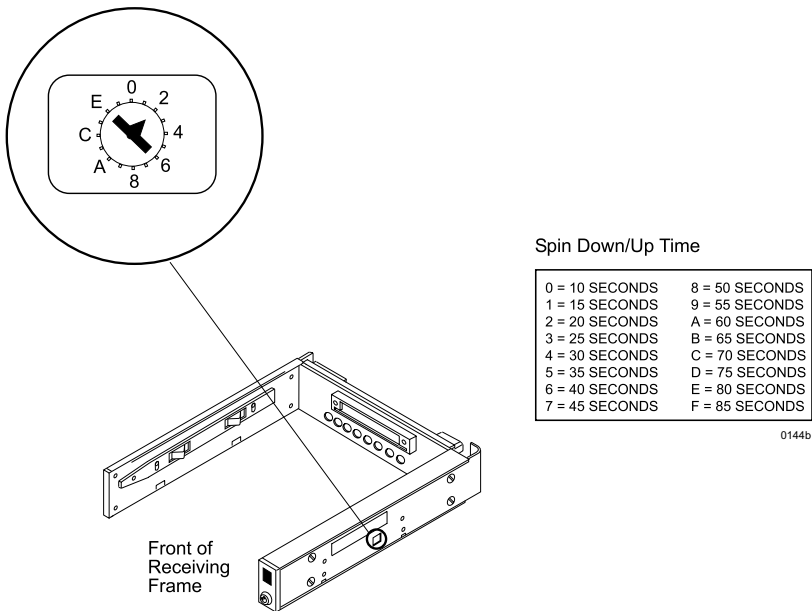

Figure 11: Device Spin Down/Up Timer Switch
**NOTE:** The timer for device spin down is controlled by a small selector, located in a cutout on the side of the Ultra320 DE100 receiving frame as shown in Figure 11. The amount of time required for a drive to spin down is approximately 15 seconds or more. This number can vary depending on the type of SCSI device and manufacturer (some drives may require 45 seconds or more). The factory configuration is set for 20 seconds. A different delay time may be selected with the provided alignment tool. Refer to the SCSI device manufacturer's manual for more information on required device spin down time.